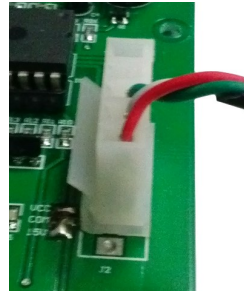

Fig. 1
5. Plug the white clip inside the control box into the control board. The groove in the white clip should snap into the guide on the 5 prong connector. (Fig 1)